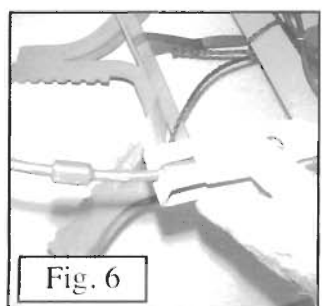

Fig. 6
D. YOU MUST rotate the hatch cover back over the bracket so that it snaps and locks into place, as shown in **Figure 6**.